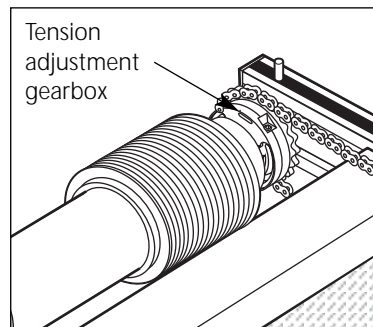

Fig. 7
(7) Insert the tension adjusting tool in the gearbox and put a few turns in the spring. Remove the tool and let the spring take up the slack in the wire. Do not tension the blind at this stage. Fig 7. There are 11 turns of the gear to one turn of the spring.